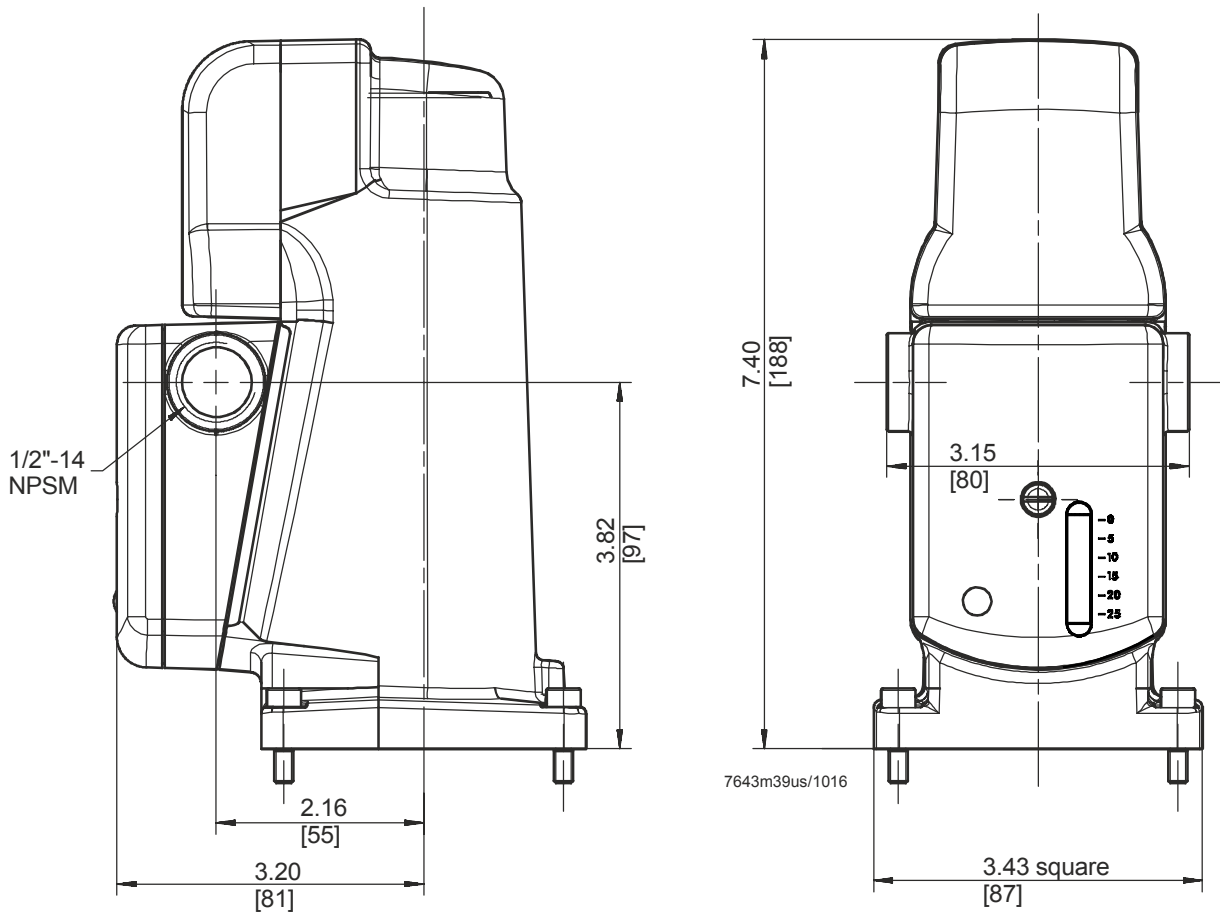

**Figure 11. Terminal designations**
- Adjust the auxiliary switch (if provided) according to the wiring diagram on the label below the terminals (see Figure 11). The adjustment screw and scale are located on the right side of the terminal box, and are visible through the transparent portion of the terminal cover.